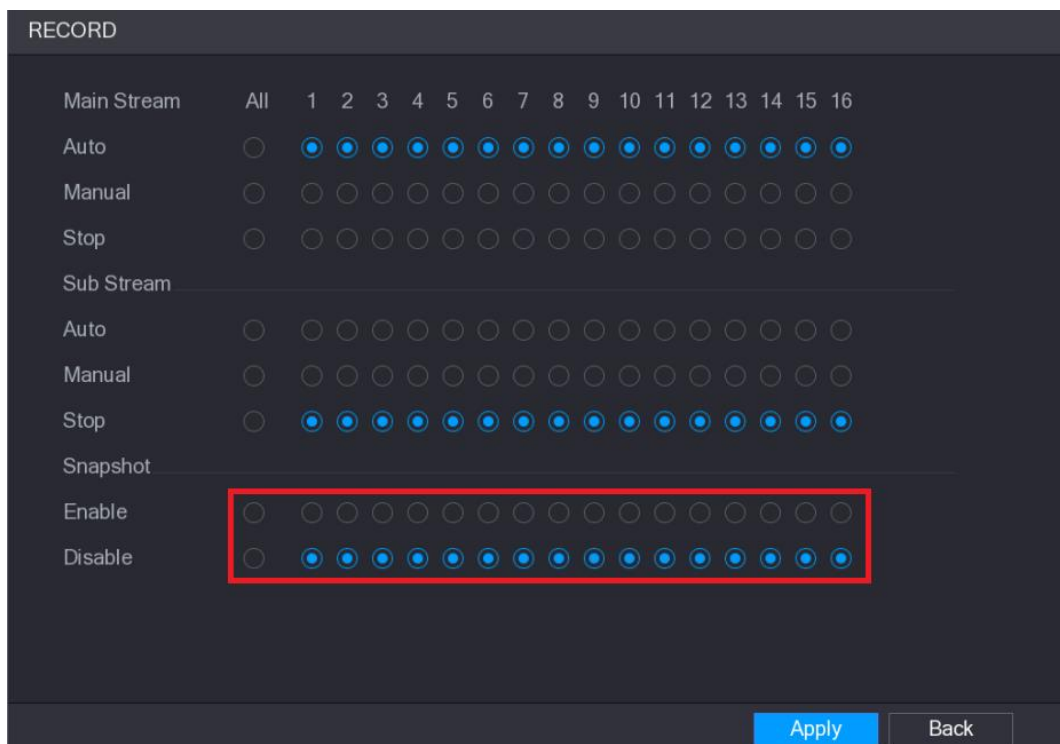

Figure 5-89
Step 3 In the **Snapshot** area, enable the snapshot for the channels if needed. See Figure 5-89.